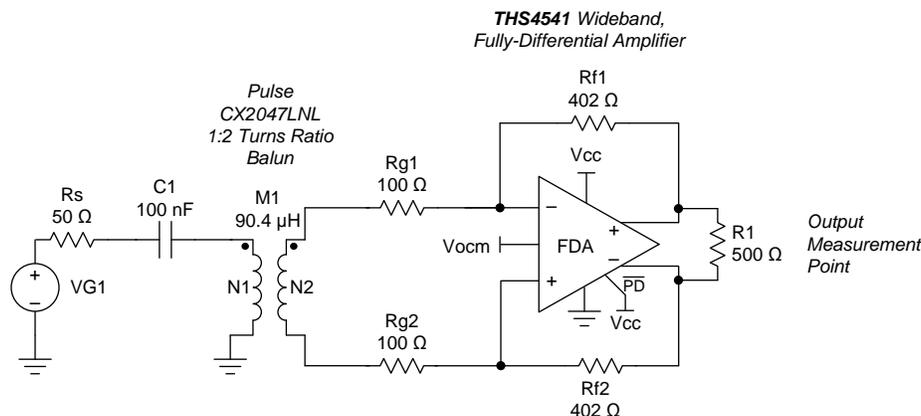

Figure 74. Input Balun Interface Delivers a Differential Input to the THS4541
Transformer input coupling allows either a single-ended or differential source to be coupled into the THS4541; possibly also improving the input-referred noise figure. These designs assume a source impedance that must be matched in the balun interface. The simplest approach is shown in Figure 74, where an example 1:2 turns ratio step-up transformer is used from a 50-Ω source.
One way to use Equation 14 is to fix the input balun selection, and then sweep the FDA gain by stepping up the Rf value. The lowest-noise method uses just the two Rg elements for termination matching (no Rm element, such as in Figure 74) and sweep the Rf values up to assess the resulting input-referred noise figure. While this method can be used with all FDAs and a wide range of input baluns, relatively low-frequency input baluns are an appropriate choice because the THS4541 holds exceptional SFDR for less than 40-MHz applications. Two representative selections, with their typical measured spans and resulting model elements, are shown in Table 7. For these two selections, the critical inputs for the noise figures are the turns ratio and the insertion loss.
The 50- $\Omega$  referred noise figure estimates show a decreasing input-referred noise for either balun as the gain increases through 24 dB. The only element changing in these sweeps are the feedback-resistor values, in order to achieve the total target gain after the step up from the input balun. The example of Figure 74 is a gain of 7.86 V/V, or a 17.9-dB gain where a 9.0-dB input noise figure is predicted from Figure 75. Another advantage for this method is that the effective noise gain (NG) is reduced by the source impedance appearing as part of the total  $R_g$  element in the design. The example of Figure 74 operates with a  $NG = 1 + 402 / (100 + 100) = 3 \text{ V/V}$ , giving greater than 300-MHz SSBW in the THS4541 portion of the design. Combining that with the 372 MHz in the balun itself gives greater than 200 MHz in this 18-dB gain stage; or an equivalent greater than 1.6-GHz gain bandwidth product in a low-power, high dynamic range interface.
Added features and considerations for the balun input of Figure 74 include: